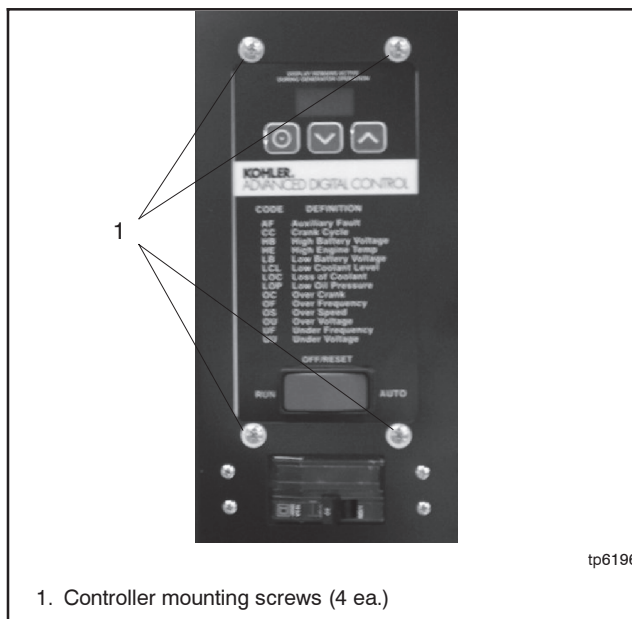

Figure 4-20 Controller Mounting Screws
- d. Loosen and remove four controller mounting screws at the front of the controller. See Figure 4-20. Remove the controller from the compartment.